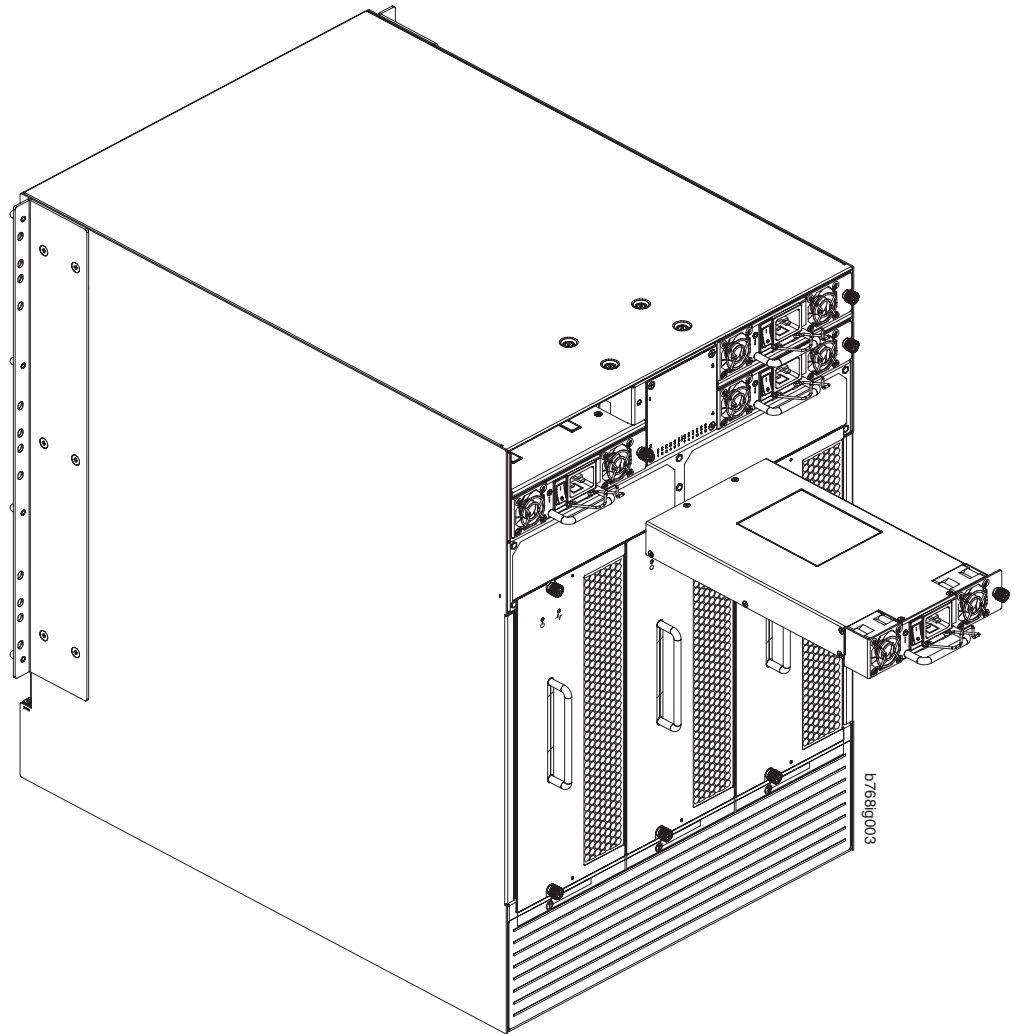

Figure 31. Removing and installing a power supply
2. Pull the handle out and down (see Figure 31).